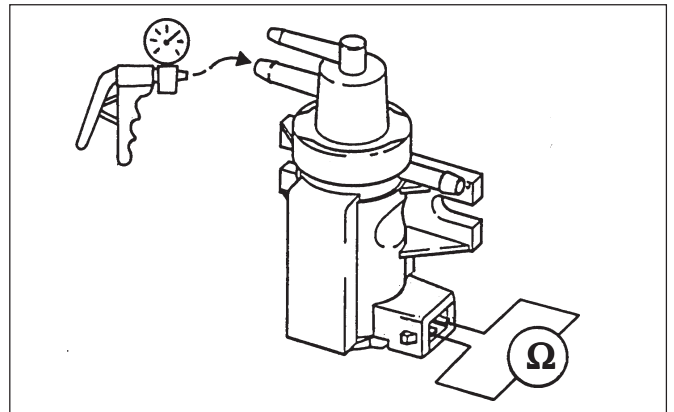

Fig. 6
- Measure the resistance between the contacts of the EPT (see → Fig. 6)